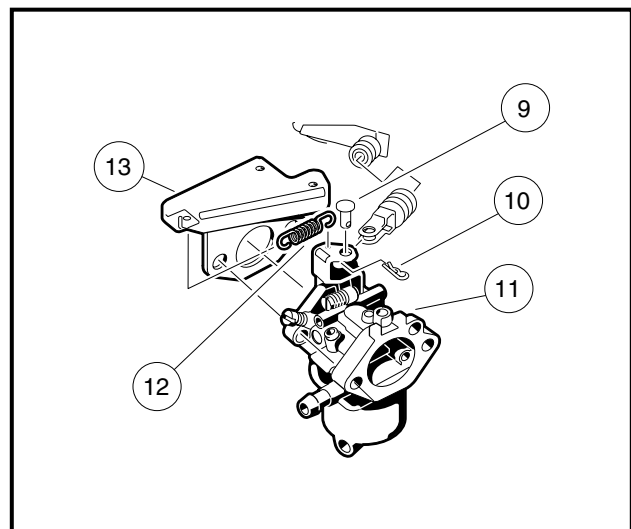

Figure 13-40 Governor Cable Connection
6. Install carburetor (11), throttle spring (12) and the throttle spring bracket (13). Tighten to 50 in-lb (5.6 N-m) (**Figure 13-40, Page 13-21**).
9. Install governor cable clevis pin (9) through cable clevis and throttle valve, and install a new cotter pin (10) (**Figure 13-40, Page 13-21**).